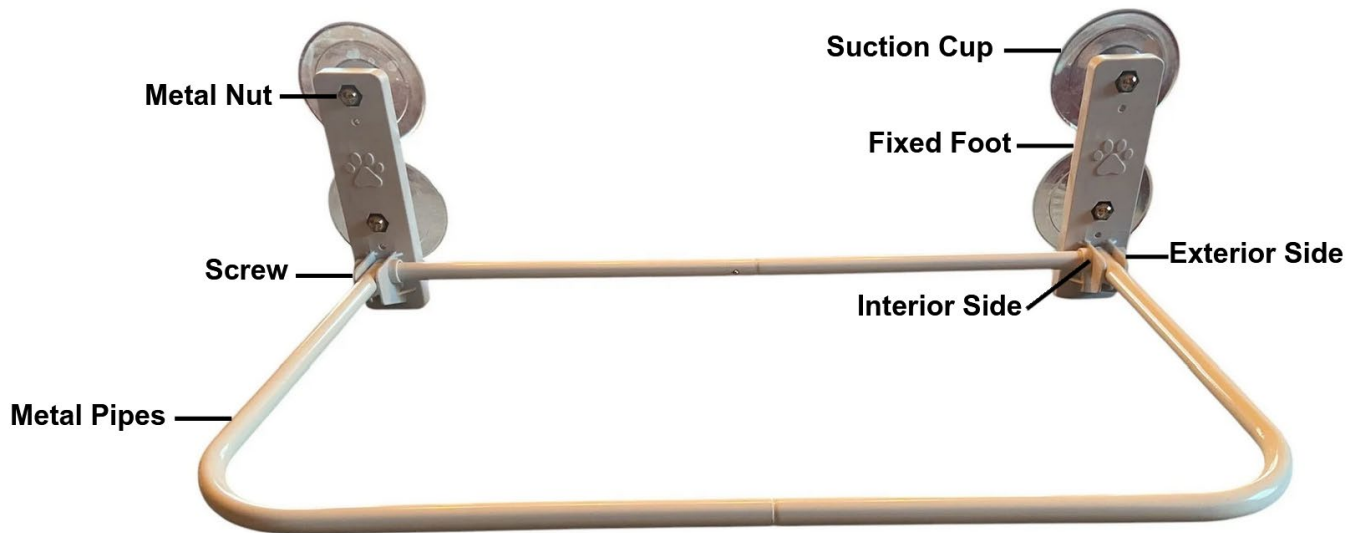

Figure 4: Frame system without the reversible pad
The frame system is the structural backbone of the window perch and offers a weight capacity of 18kg. The frame system incorporates a variety of materials, including steel, plastic, and rubber. It is made up of several parts: (1) four metal pipes, (2) two fixed feet, (3) two screws, (4) four suction cups, and (5) four metal nuts (see Figure 4). Understanding the difference between the interior and exterior sides is important for correctly inserting the screws and metal pipes.